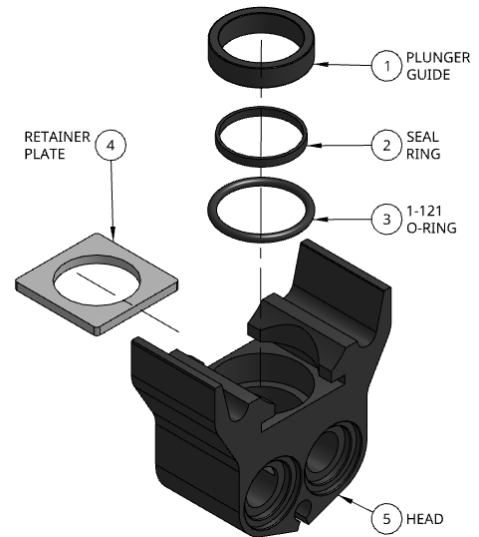

Figure 3
4. Fit o-ring around seal ring and gently place in seal bore with both thumbs. Place plunger guide into seal bore, level about the o-ring/seal combo. Apply even pressure to install plunger guide into seal bore. See Fig. 3.